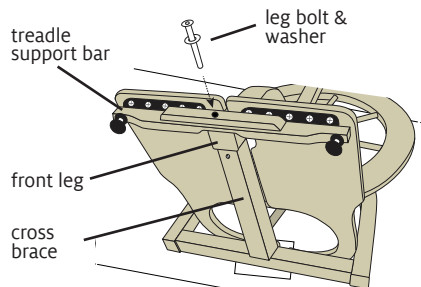

FIGURE 7: ATTACH THE FRONT LEG BOLT
10. Insert the front leg bolt through the metal washer, then into holes in the treadle support bar, the front leg, and the cross brace (Figure 7). Using the 4 mm hex wrench, fasten the leg bolt loosely.